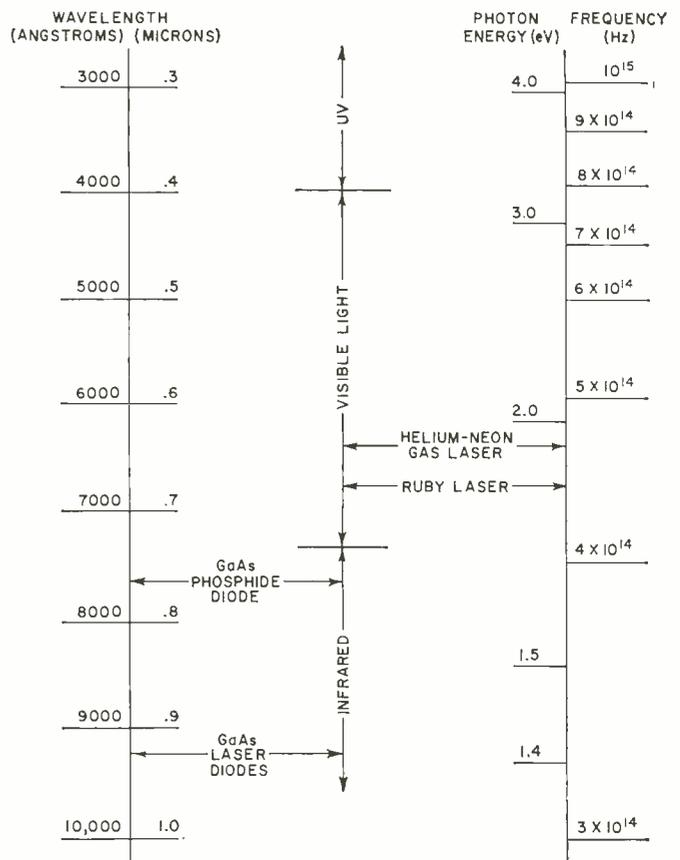

Fig. 3. Chart showing the laser spectrum.
The wavelength of the light emitted from a  $p-n$  junction is inversely proportional to the dissipated energy,  $\Delta E$ . This can be shown by the equation:  $\lambda = hc/\Delta E$ , where  $\lambda$  is the wavelength of emitted light energy,  $h$  is Planck's constant, and  $c$  is the speed of light in a vacuum. As an example, zinc-doped gallium arsenide has a characteristic  $\Delta E$  of 1.37 electron-volts at room temperature. Using the appropriate constants or the chart in Fig. 3, the wavelength of output light energy at the instant of an electron-hole recombination will be about 9050 angstroms which is within the infrared portion of the light spectrum.
Fig. 3. Accepted symbols for JFET's and MOSFET's: (A) symmetrical JFET; (B) nonsymmetrical JFET; (C) and (D) common MOSFET symbols; (E), (F), (G) nonsymmetrical MOSFET's in (G) substrate is tied internally to the source.